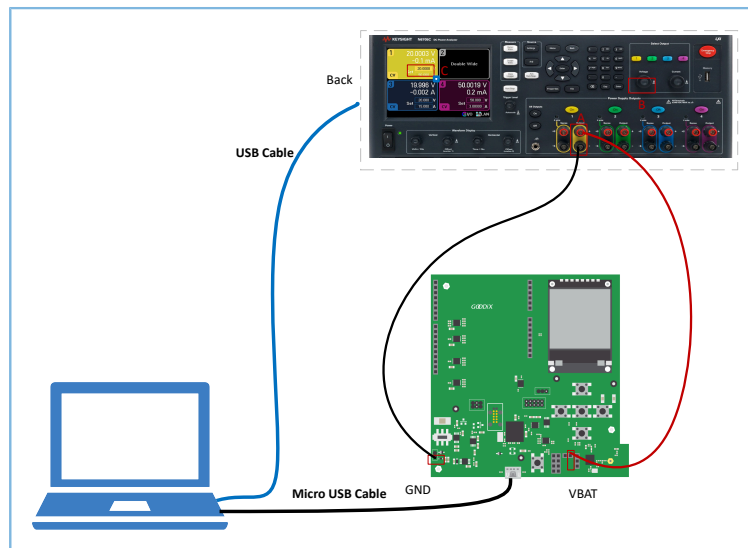
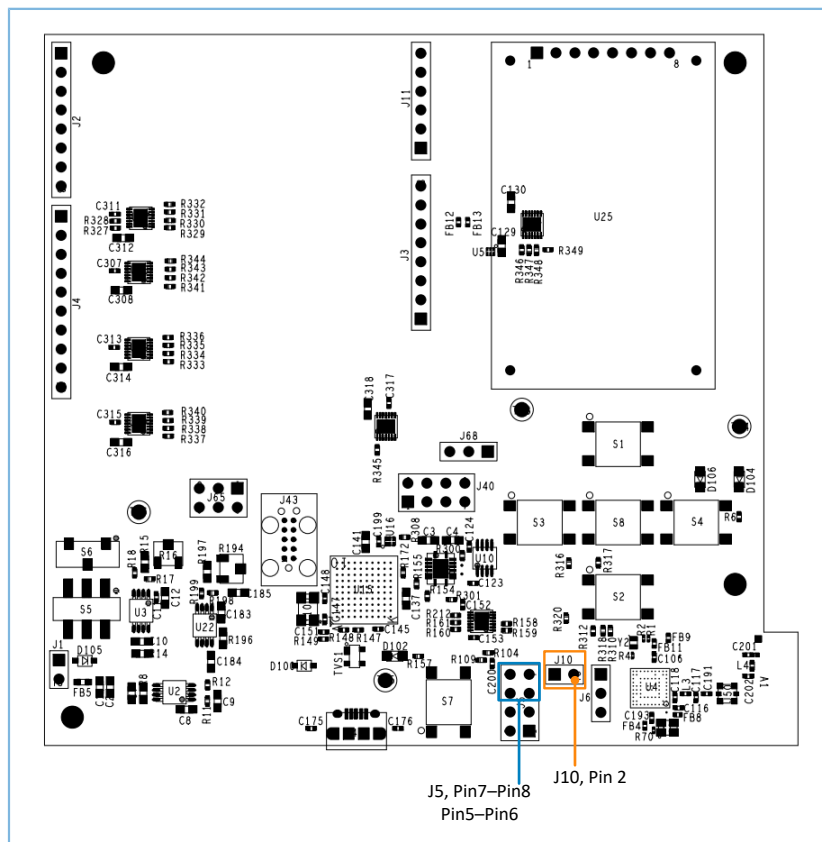

Figure 3-1 Hardware connection
Figure 3-2 Hardware layout of GR5515 SK Board (top view)
- Power on Keysight N6705C, and turn the knob as shown at Location B in Figure 3-1, to set the output channel voltage until the display at Location C in Figure 3-1 shows 3.3 V.
- Connect the positive pole (“+”) at Location A in Figure 3-1 to VBAT pin (J10 Pin 2, as shown in Figure 3-2) on the GR5515 SK Board; connect the negative pole (“-”) to GND pin, to power the GR551x SoC on the board.
Before power consumption measurement, remove the jumper caps on Pin 5–Pin 6 and Pin 7–Pin 8 of J5 (as shown in Figure 3-2), and remove the LCD in the upper-right corner on the board, to prevent abnormal measurements due to current leakage from VDDIO.